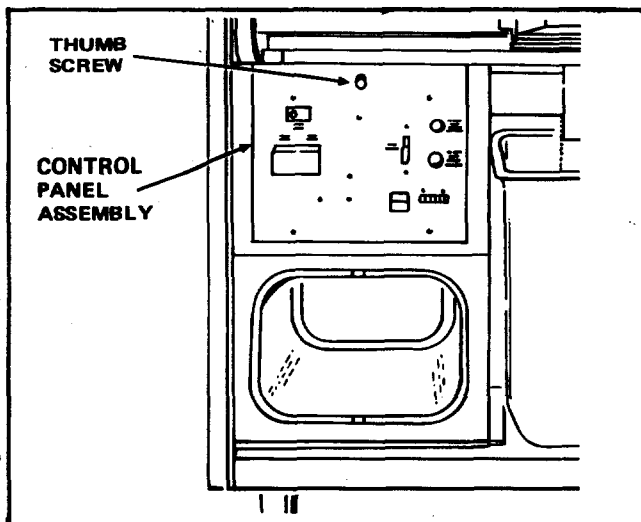

FIGURE 13
1. Remove the Thumb Screw and pull down the Control Panel Assembly. See Figure 13.
7. Return the Control Panel Assembly to the UP position and secure with the Thumb Screw removed in Step F-1. See Figure 13.